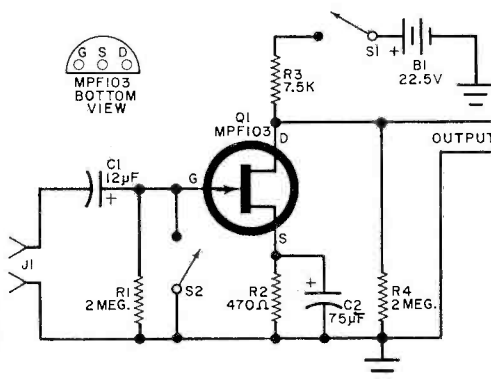

Fig. 2. Output level of the bridge is very low and this special pre-amplifier may be required. Capacitor C1 is made of tantalum foil.
**Construction.** The PPG is divided into three cable-connected sections: the finger-mounted transducer assembly, the measuring bridge, and a FET signal pre-amplifier (optional). The circuit for the transducer and bridge is shown in Fig. 1 and the schematic for the FET pre-amplifier is shown in Fig. 2.
Because the bridge output is a low-level, low-frequency signal, the FET pre-amplifier shown in Fig. 2 may be used to increase the signal level to a point usable by some scopes. This pre-amplifier is a conventional FET stage having the required very high input impedance so as not to reduce the low-frequency coupling ( $C_1$ ) at these one-to-two-Hz subaudible frequencies.
**Preamplifier.** The approximate bridge output amplitude of a PPG signal is 0.05-volt peak to peak. Your scope should have a vertical sensitivity of at least 10 mV per cm (25 mV per inch) at one to two Hz. However, if your scope does not have this sensitivity, the FET preamplifier (schematic in Fig. 2) should be built.
off in a bipolar transistor or vacuum tube. Therefore, after placing your finger in the transducer, you might have to wait fifteen seconds before the amplifier commences functioning and the signal appears on the CRT. To partially eliminate this delay, a momentary-contact switch ( $S2$  in Fig. 2) is connected across  $R1$ . With this switch closed,  $C1$  will charge in a fraction of a second. When you release this switch, the amplifier should function immediately.